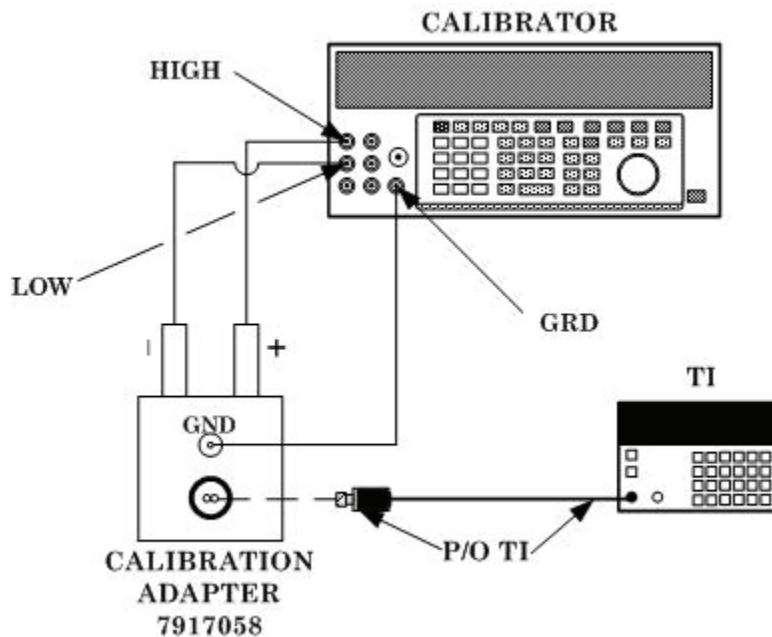

Figure 5. Dc accuracy - high range - equipment setup.
(15) Set calibrator to **STBY** and disconnect test equipment. Connect equipment as shown in figure 5.
(16) Repeat (14) above for calibrator outputs and TI pushbuttons listed in table 9.
(17) Disconnect all equipment, press **CLEAR** pushbutton.
- (7) Disconnect multimeter from TI. Press **ZERO** pushbutton and wait for zeroing to end.
- (8) Press **5** and **RANGE HOLD** pushbuttons.
- (9) Connect equipment as shown in figure 5.